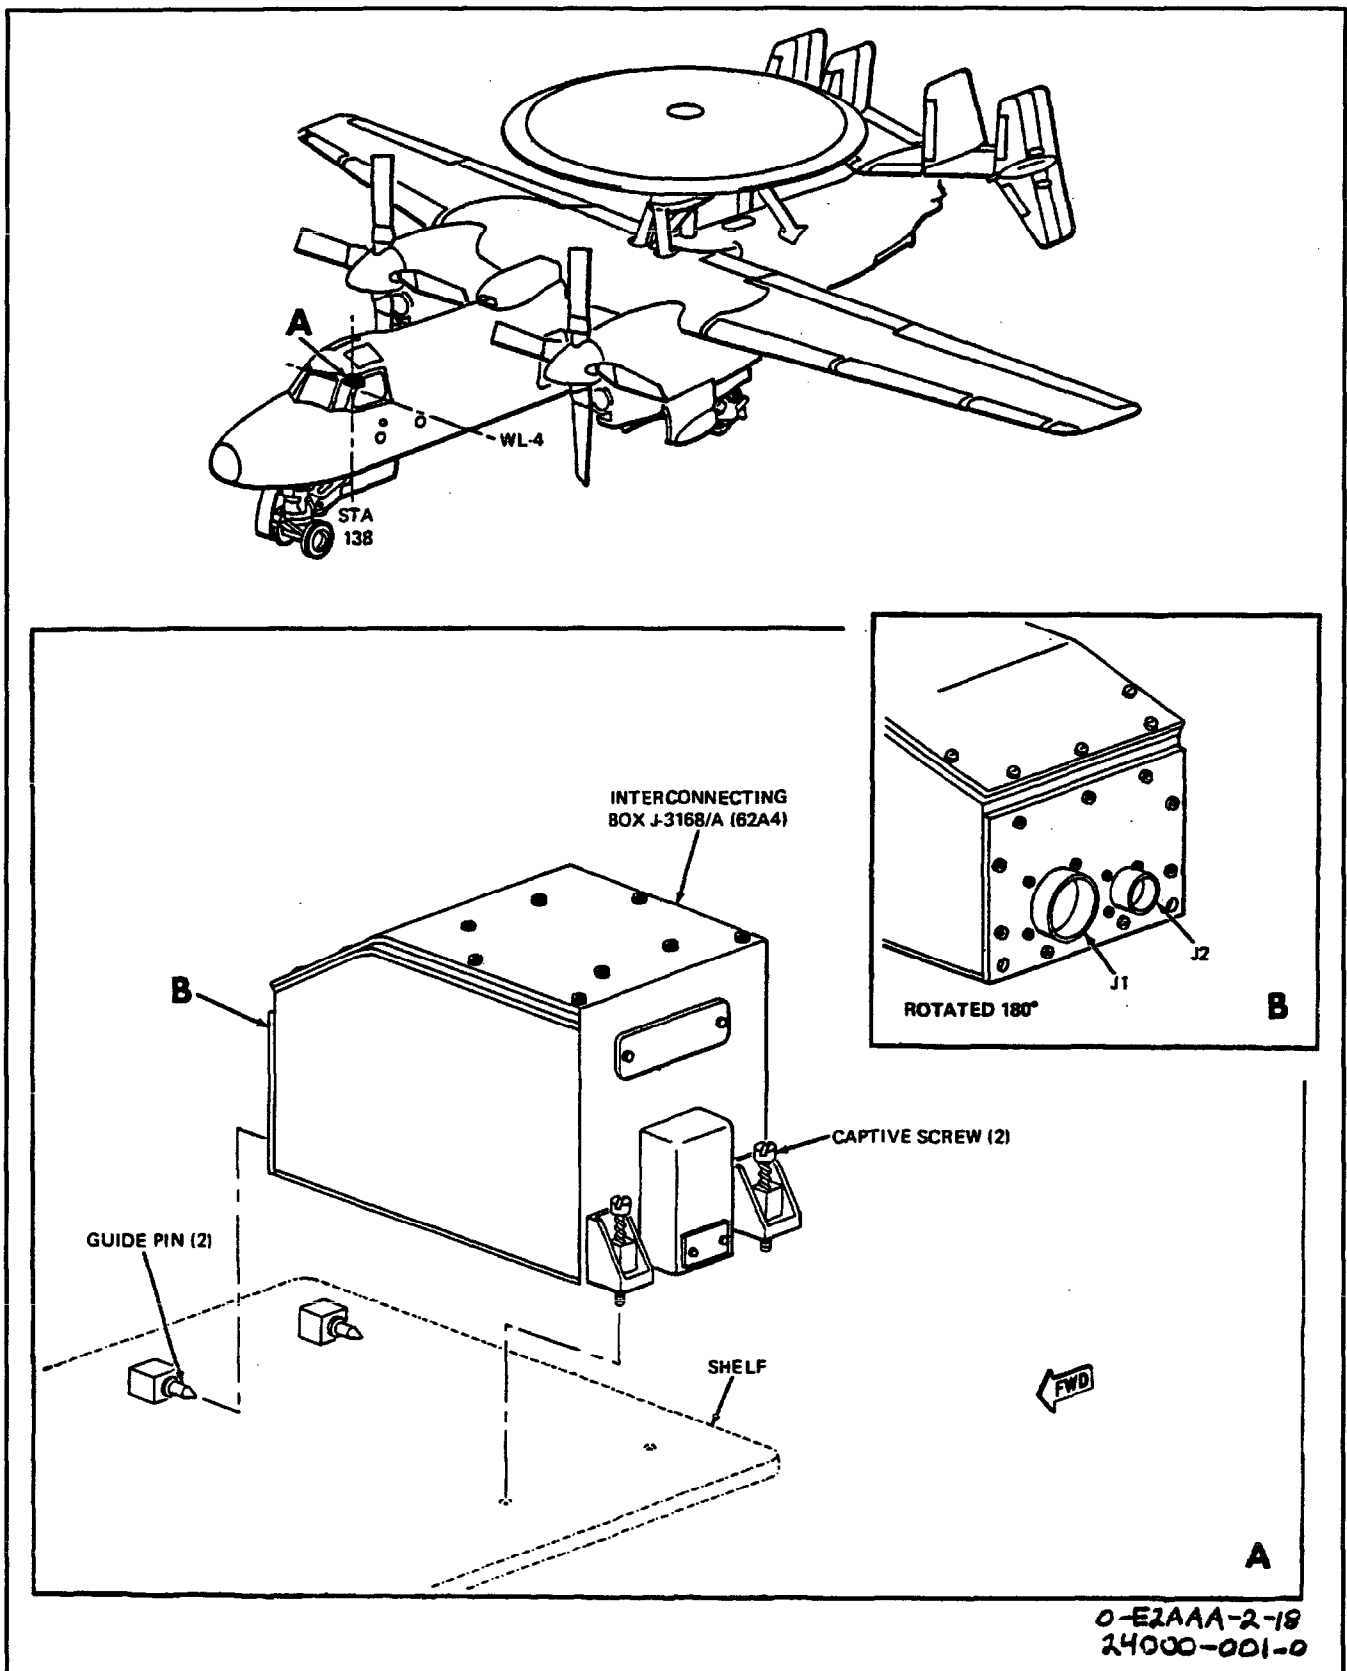

Figure 1. Removal and Installation of Interconnecting Box J-3168/A
2. The Interconnecting Box J-3168/A (hereinafter referred to as the junction box) (62A4) is used in conjunction with the Countermeasures Set AN/ALQ-108. The junction box is in the cockpit, right side (see figure 1). Support equipment required for maintenance is listed below.
3. **REMOVAL.** (Figure 1.)
4. **INSTALLATION.** (Figure 1.)